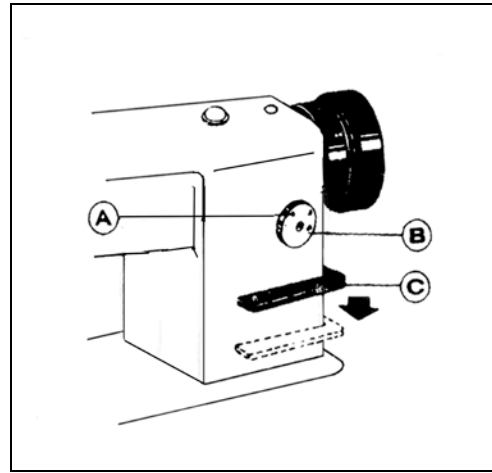

Fig. 6
7. SET STITCH LENGTH AND REVERSE FEEDING (Fig.6)